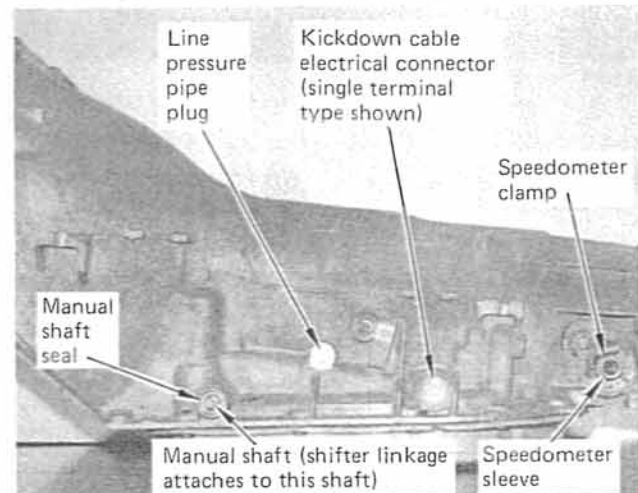

FIGURE 2
**STEP 4.** Disconnect kickdown cable wire on left side of case. (See Fig. 2) Disconnect shifter linkage. On cable shift models (floor consoles) unbolt cable bracket from pan and leave cable attached to bracket. Disconnect speedometer cable.
**STEP 9.** Remove speedometer retaining bolt and clamp. (See Fig. 2) Pull speedometer sleeve and driven gear out of transmission. Remove and discard O-ring and inner seal. Do not lose small wire clip for inner seal. Put sleeve and gear in oil pan.
**STEP 20.** Remove cooler fittings from case. Remove 1/8" NPT pipe plug from left side of case at line pressure tap. (See Fig. 2) The case is now stripped and can be cleaned. The park pawl does not have to be removed. When handling the case, be careful not to damage the valve body surface as this can cause erratic operation.